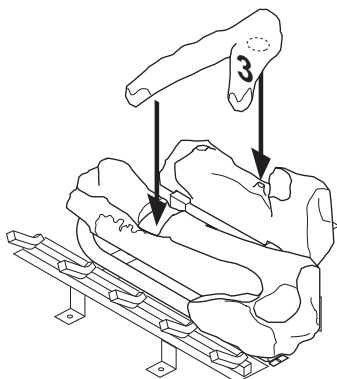

Figure 43 - Installing Log No. 3
4. Place log #3 (crossover log) onto the rear and front logs. Make sure it is seated properly into the notch on the front log and over the raised triangular portion of the rear log as shown in Figure 43.